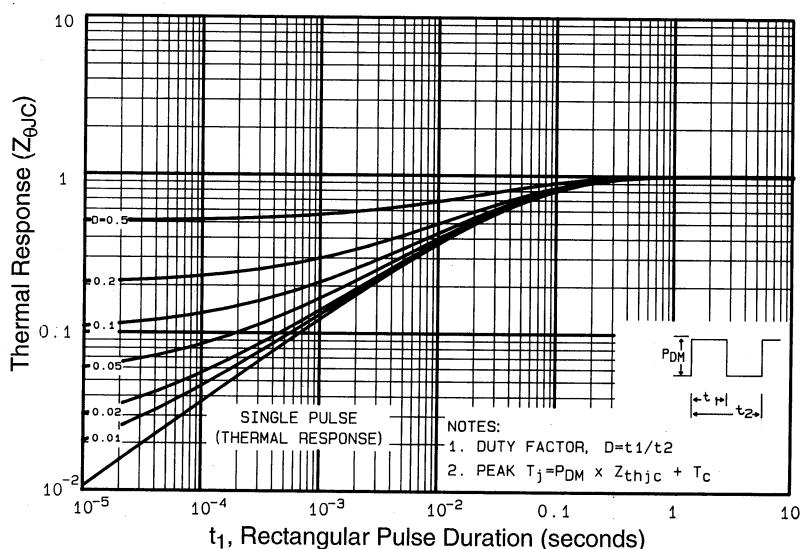

Fig 11. Maximum Effective Transient Thermal Impedance, Junction-to-Case
- ① Repetitive rating; pulse width limited by max. junction temperature. (See fig. 11)
- ② $V_{DD} = 25\text{V}$, starting $T_J = 25^\circ\text{C}$, $L = 34\mu\text{H}$